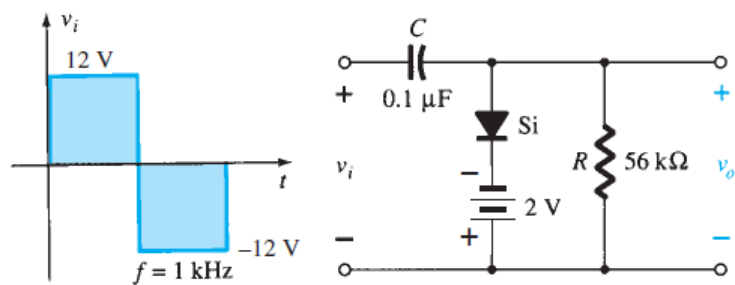

Figure 9.7.1: Clamper Circuit
1. Connect the circuit as shown in Fig. 9.7.1 with certain modifications.